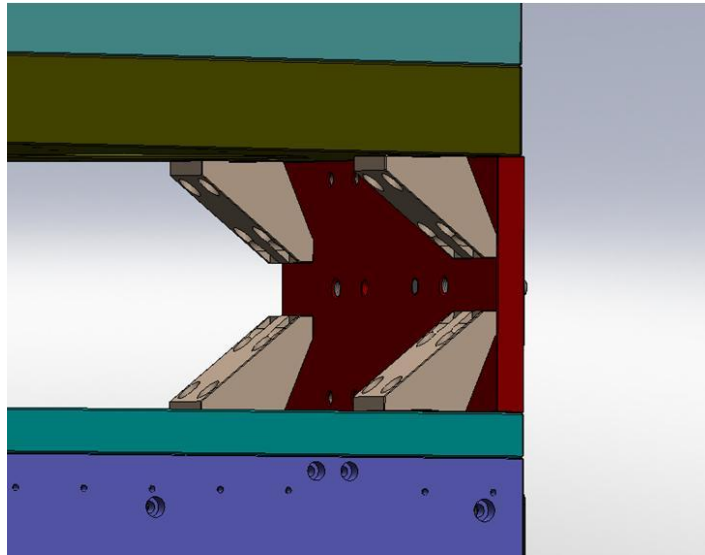

Figure 86 D0901539 Outer Wall Gussets in place
- (2) 3/8-16 x 2.5" SHCS – MSC 75464727 – to D0901520 Stage 2 Mid Plate or to D0901518 Keel Plate Down Facing
- (6) 3/8 Vented Washers - UCC-WFV-38
- Locate D0901539 Outer Wall Gusset on D0901518 Keel Plate Down-Facing, & D0901533 Upper Outer Wall or on D0901520 Stage 2 Mid Plate & D0901533 Upper Outer Wall as shown on Figure 86.
- Insert all the screws through D0901539 Outer Wall Gusset itself into D0901520 Stage 2 Mid Plate, D0901518 Keel Plate Down-Facing (3/8-16 x 2.5" SHCS) or D0901533 Upper Outer Wall (3/8-16 x 1.25" SHCS) as shown on Figure 86.
- Repeat this step for the (2) other corners of Stage 1.